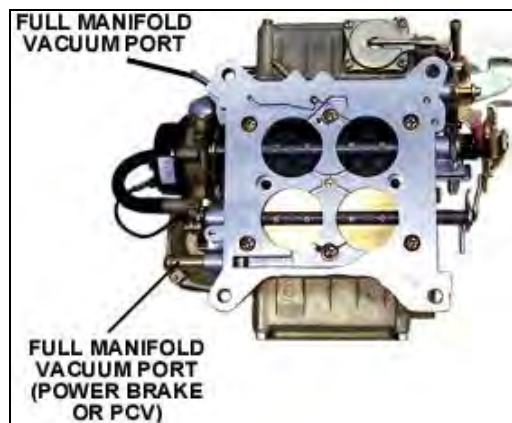

Figure 3
9. Reconnect the appropriate vacuum hoses to the carburetor, noting the correct fitting from Diagram 2 and Figure 3. Replace any cracked or dry rotted hoses at this time to prevent any vacuum leaks.
11. Connect the power brake and/or PCV hose to the fitting, as shown in Figure 3.
1. Attach the vacuum gauge to a manifold vacuum port on the throttle body (Figure 3).